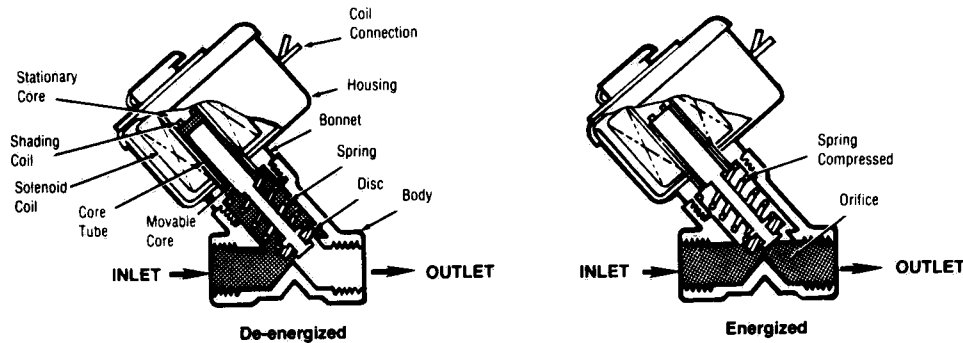

Figure 7-2. DIRECT ACTING SOLENOID VALVE.
**Direct-acting Valve (Fig. 7-2):** In direct-acting valves, the solenoid core is mechanically connected to the valve disc and directly opens or closes the orifice, depending on whether the solenoid is energized or de-energized.